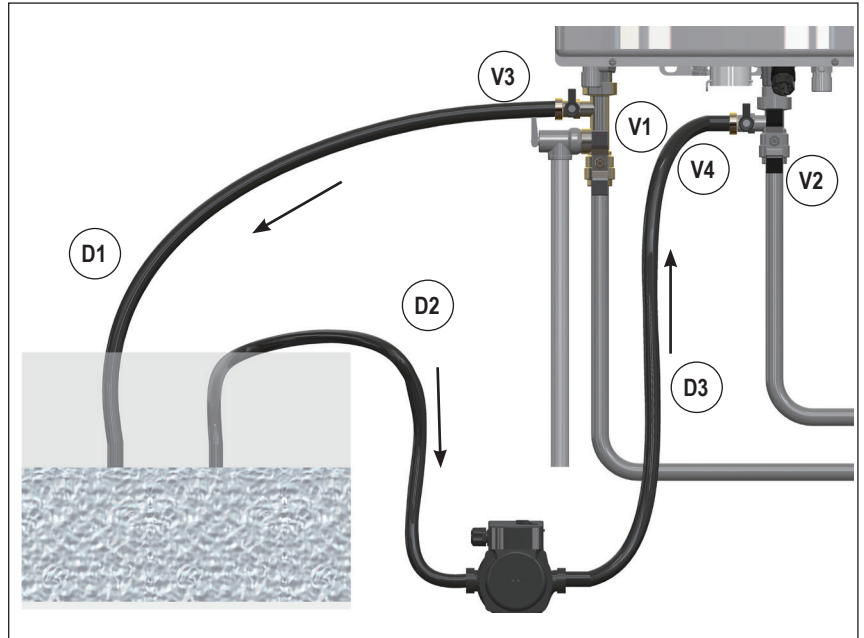

Figure 44 – Valve and Hose Connection Details
2. Close the shutoff valves on both CH supply and CH return lines (V1 and V2). See Figure 44.
3. Connect one hose (D1, Figure 44) to the valve (V3) and place the free end in a bucket. Connect one of the hoses (D3) to the circulation pump outlet and the cold water inlet line to valve V4. Connect the other hose (D2) to the circulation pump inlet and place the free end in the bucket.